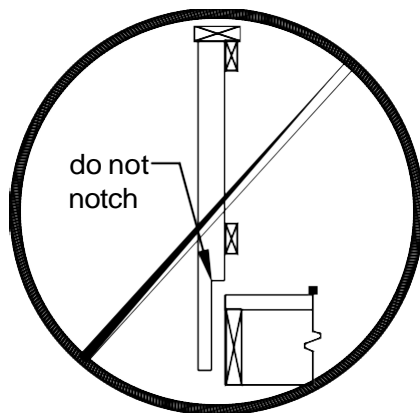

FIGURE 35: POST NOTCHES PROHIBITED
- Notching guard posts, as shown in **FIGURE 35**, is prohibited.